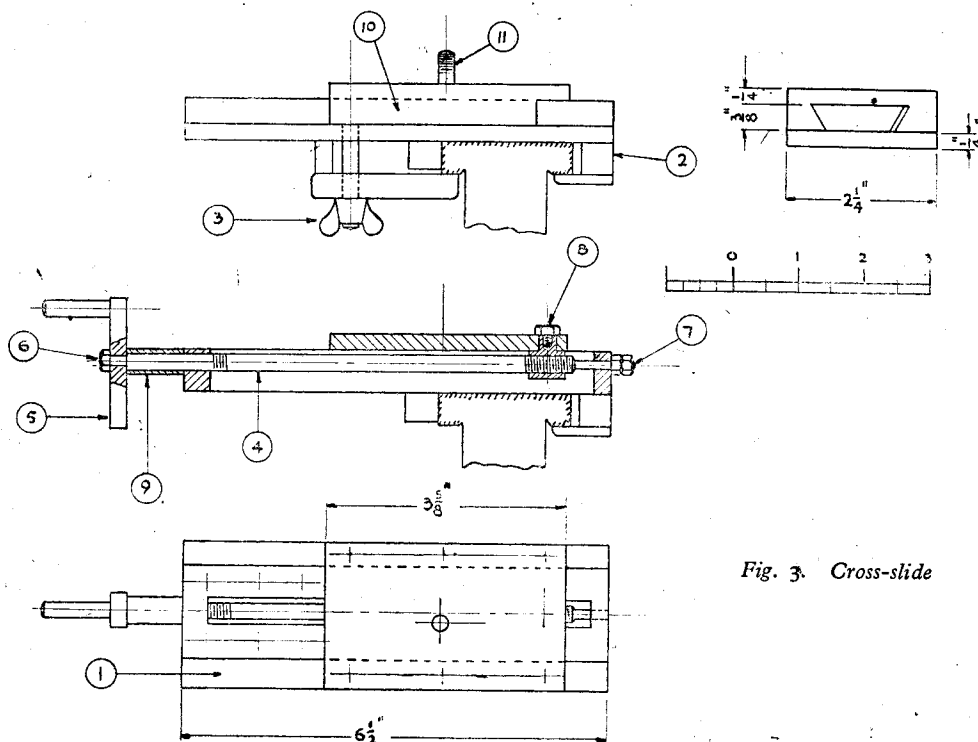

Fig. 3. Cross-slide
Cross-slide. Fig. 3
upper piece, forming the dovetail, has a circular hole (13) cut in it, which houses a thin $\frac{1}{4}$ -in. B.S.F. nut, while the lower piece is drilled and reamed to receive the cross-slide stud (11) (Fig. 3). In addition to housing the nut, the hole (13) is large enough to receive the necessary box spanner which tightens the nut and hence the base (12) down on to the cross-slide. Two small bearing blocks (14) are secured to the base with 4-B.A. countersunk screws, and these carry the feedscrew (18). The latter is similar to the cross-slide feedscrew as also is the handle. The sliding member (15), which carries a $\frac{1}{4}$ -in. B.S.F. stud for the tool box is built up from three pieces of steel, viz a top and two sides, the top piece having an extension to which is fastened a small piece of steel (17). Thus, in this region the thickness of the metal is doubled in order to give room for a tapped hole which engages with the feedscrew (18).